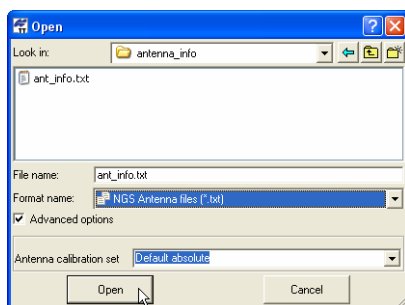

Figure 11-49. Select the Antenna Calibration File from the Antenna Calibration Set
- Click **Open** to add the new calibration set to the Topcon Tools (Figure 11-49).